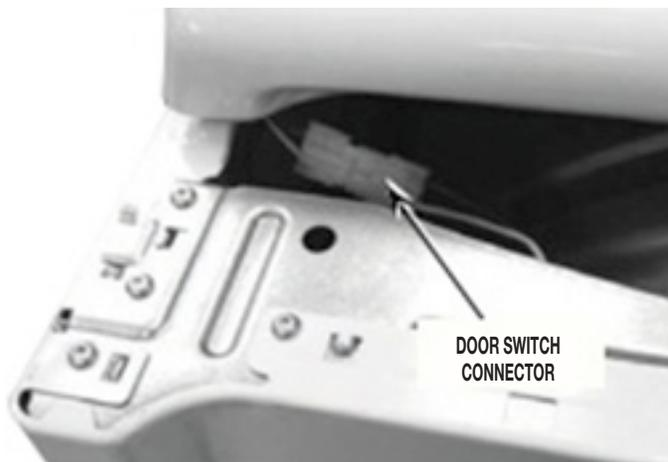

FIGURE 3
3. Disconnect the door switch connector located in the top left front corner of the dryer. See *Figure 3*.